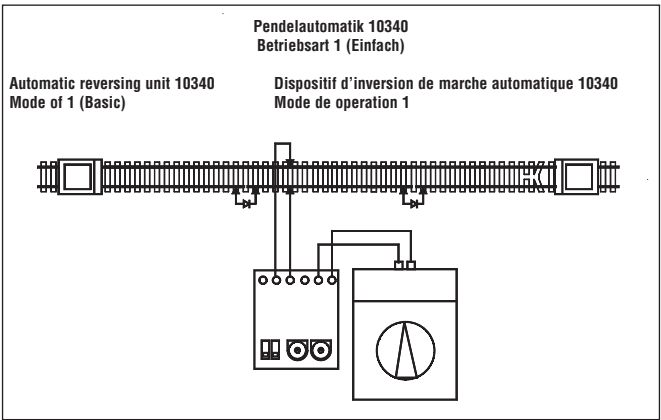

Fig. 2
Preparation (Fig. 2)
2. Use the blue/red track power cable to connect the connectors marked "bl" (blue) and "rt" (red) on terminal "A" of the circuit board to the tracks (Fig. 2).